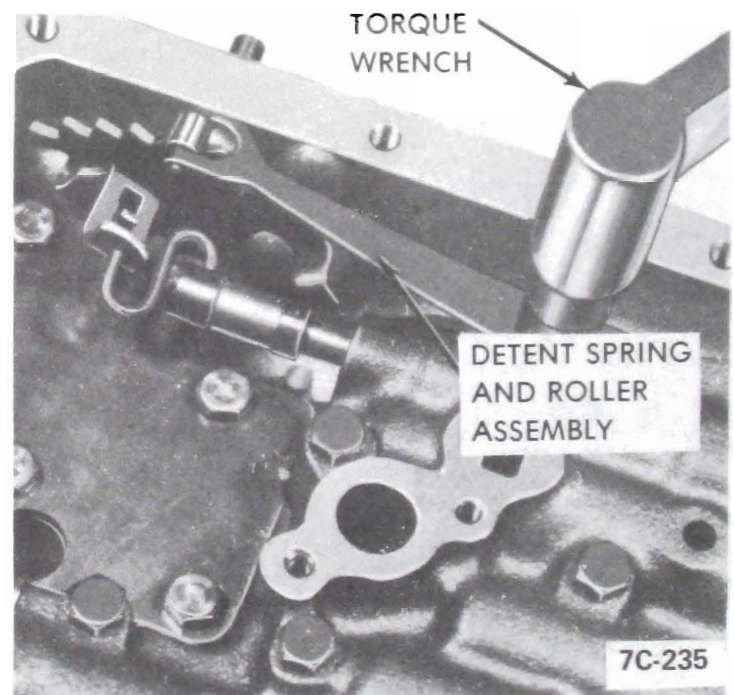

Figure 7C-267
4. Loosen hex nut. See Figure 7C-277. When nut is fully loosened the reading obtained on the dial indicator will be converter end clearance. If clearance is .050" or over and the oil has the appearance of having been mixed with aluminum paint, replace the converter.